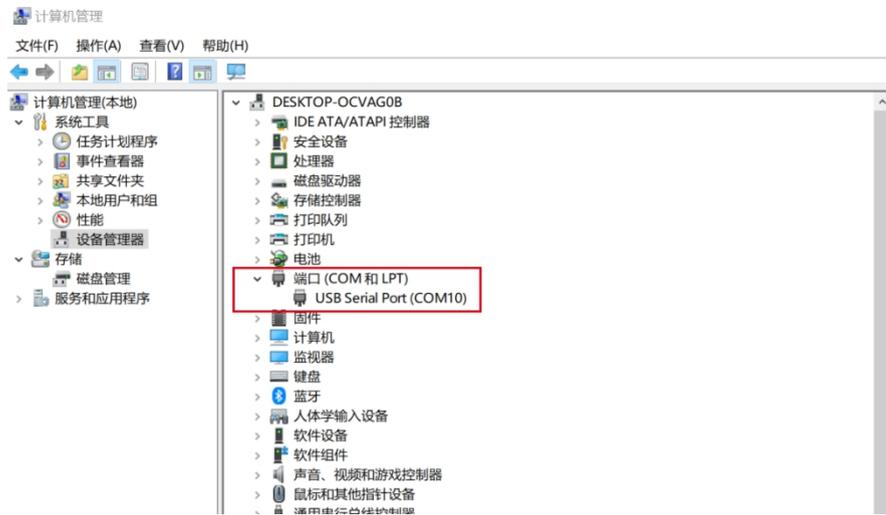

Fig. 3.2.1
(1) Software installation: Win7 / Win8 / Win8.1 / Win10 system
(2) Connection: connect the data cables or wireless data transmission. USB cable connects to your computer.
(3) Driver Debugging: Right click “My Computer” to “Computer management”, click “Device Manager”. User can find “USB Serial Port (COM XX)” which indicates driver has been installed automatically , as shown in Fig. 3.2.1